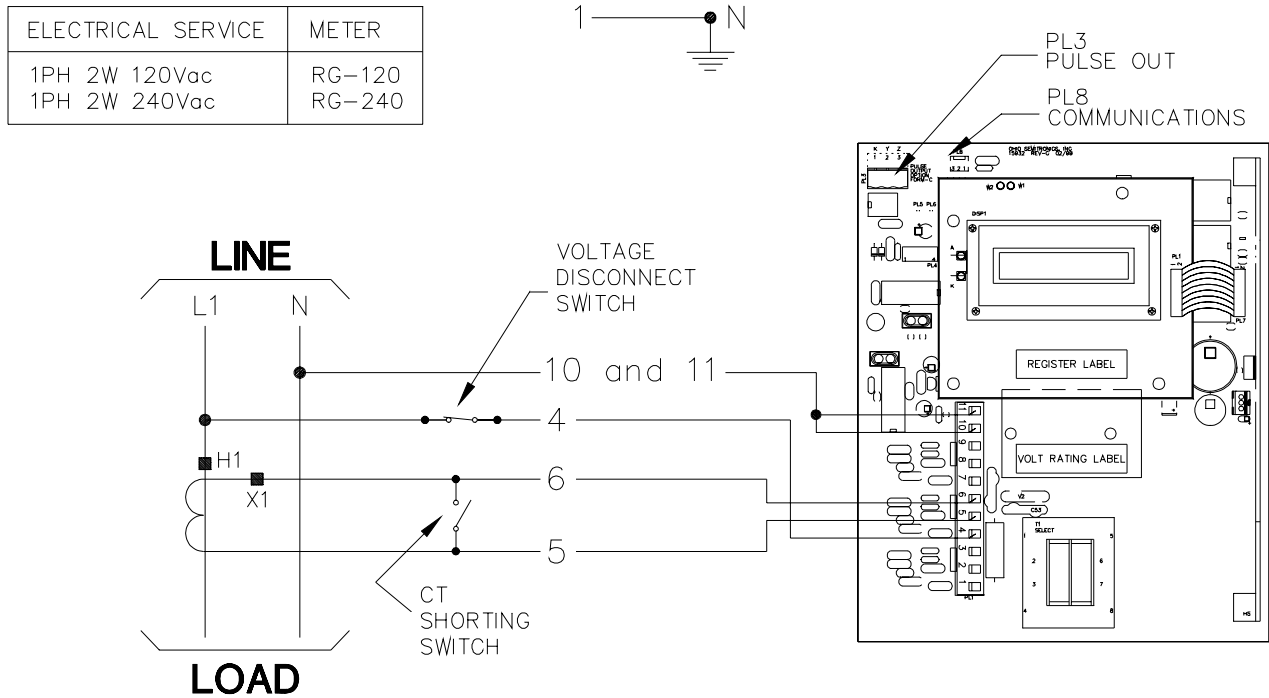

Figure 4
See Figure 4 for 2 Wire grounded single-phase connections.
**Install current transformers.** See Figure 12 for examples. See Figure 4 through 11 for connections.
See figures 4 through 11 for connections. Use minimum 14 AWG wire for the voltage tap. Voltage taps and current transformers in corresponding positions must be on the same electrical phase for proper operation of the Register. For example, if the Line 1 voltage tap was connected to A-Phase, then CT-1 must be on the A-Phase feeder.